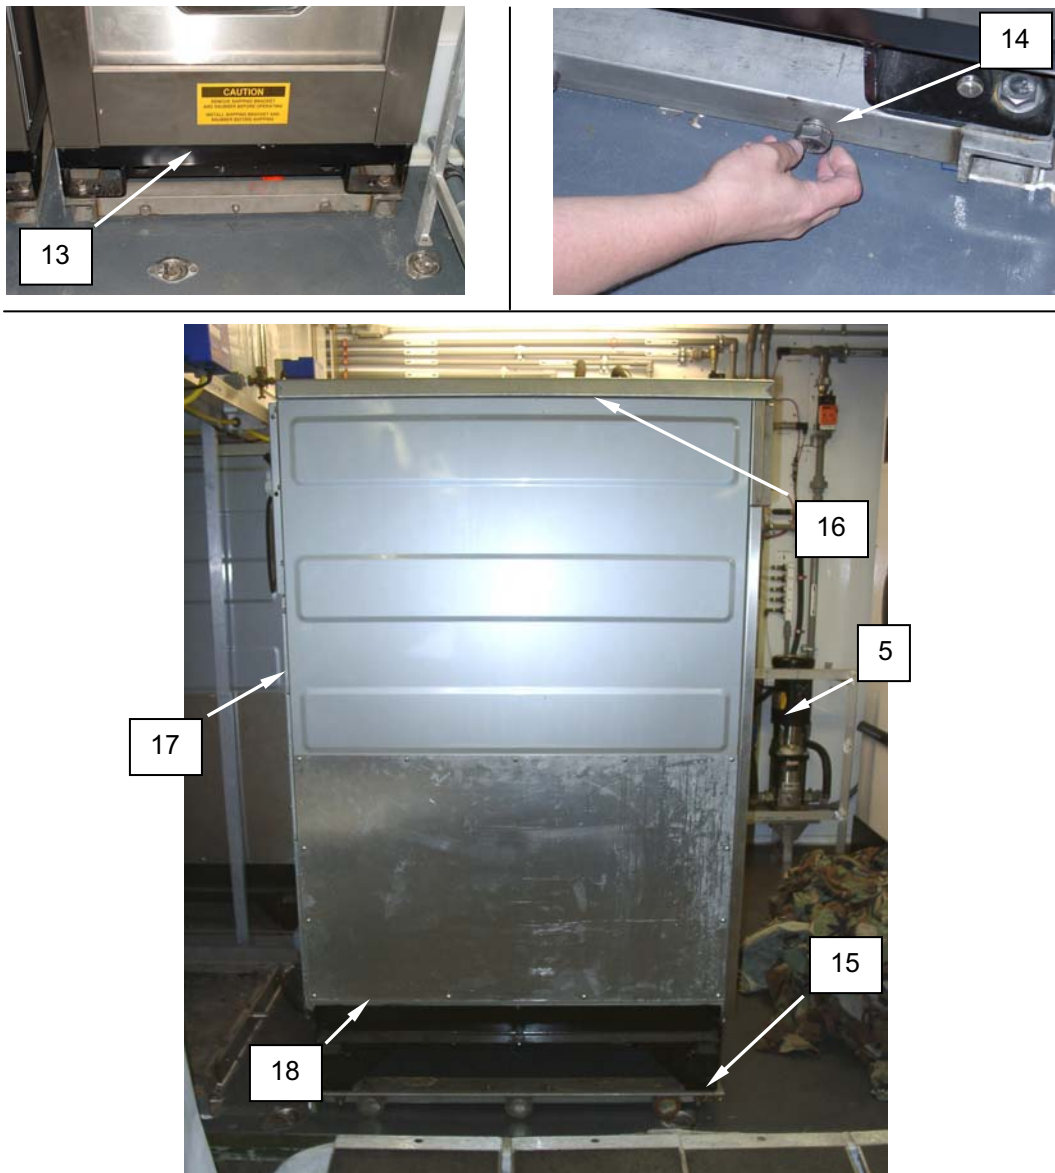

Figure 3. Remove the Washer.
7. Remove the screws retaining the washer kick panel (**Figure 3, Item 13**), and remove the kick panel.
8. Remove the bolts (**Figure 3, Item 14**) retaining washer casters (**Figure 3, Item 15**), and pull the washer (**Figure 3, Item 5**) out into laundry operator work space.
9. Remove the two bolts retaining the washer top panel (**Figure 3, Item 16**).
10. Remove bolts retaining back panel (**Figure 3, Item 17**), and remove back panel.
11. Remove the bolts retaining the washer side panels (**Figure 3, Item 18**), and remove the side panels.